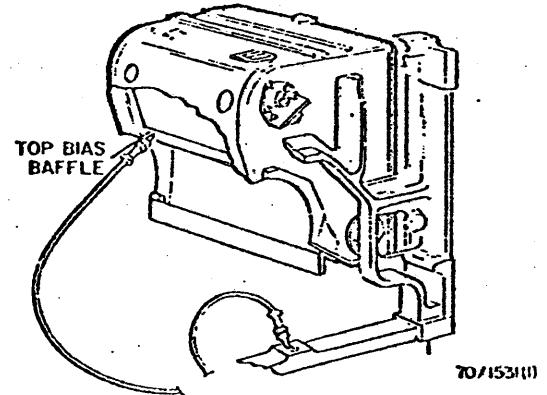

Fig. 3-176. Top Bias Baffle Voltage Check
3. Set up VOM 600T72: Attach the black lead to the COM socket; attach the red lead to the 1200 VDC socket. Position the range selector at 300 VDC. Connect the black lead to ground and the red lead to the top bias baffle (Fig. 3-176).
3. Setup VOM 600T860: Attach the black lead to the -GND socket; attach the red lead to the 3KV socket. Position the range selector to KV. Connect the black lead to ground and the red lead to the top bias baffle (Fig. 3-176).